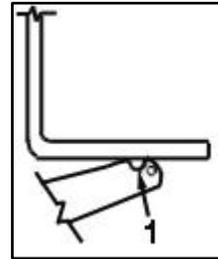

Fig. 5: Using lift arm notch to cradle a support point
- It is preferred to lift the forklift at a point where a structural member will be cradled in the lift arm notch at the end of the lift arm (see Fig. 5).
- If no structural component on the forklift is present at the desired lifting point, weld a steel bar to the forklift to create a structural member (as in Fig. 5).